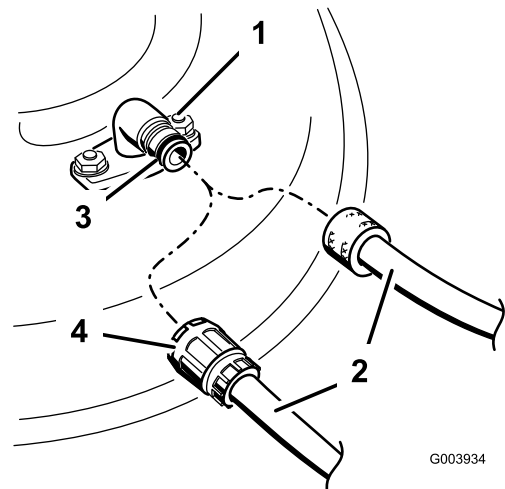

Figure 74
- Attach the hose coupling to the end of the mower washout fitting, and turn the water on high (Figure 74).